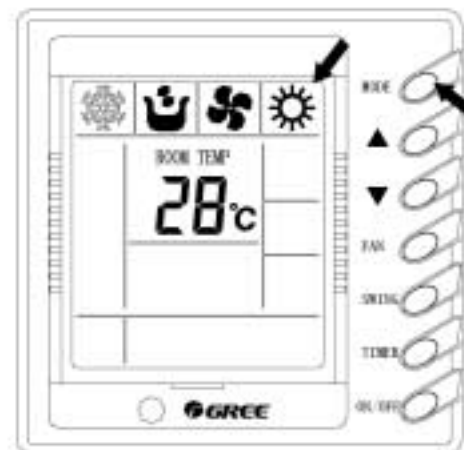

Fig8
7) The running mode setting (Fig.8)